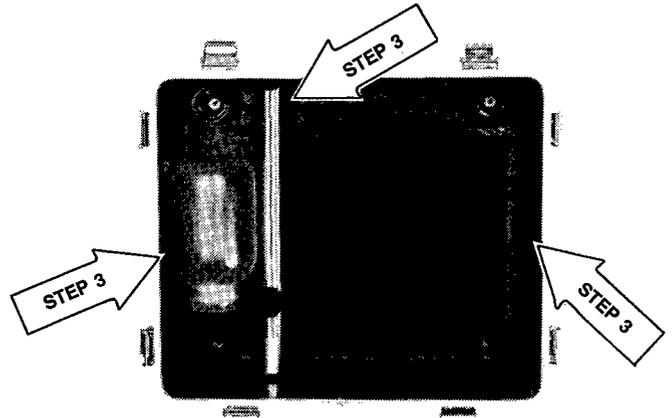
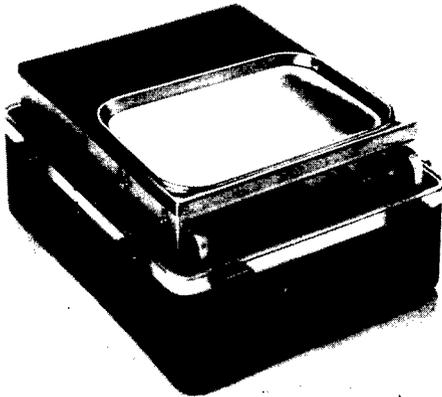

FIGURE 6
FIGURE 5
- Lift the unit from the carrying case (Figure 5), then remove the waste container, accessory kit, and post assembly (Figure 6).